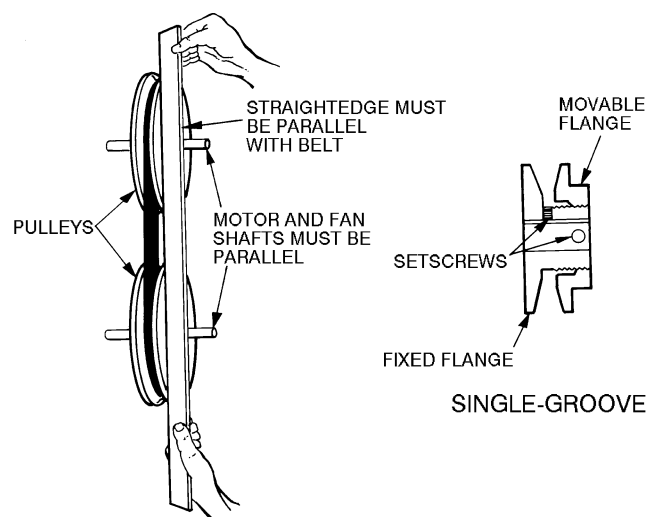

Fig. 34 — Evaporator-Fan Pulley Adjustment
3. Loosen movable pulley flange setscrew (see Fig. 34).
To align fan and motor pulleys (see Fig. 34):